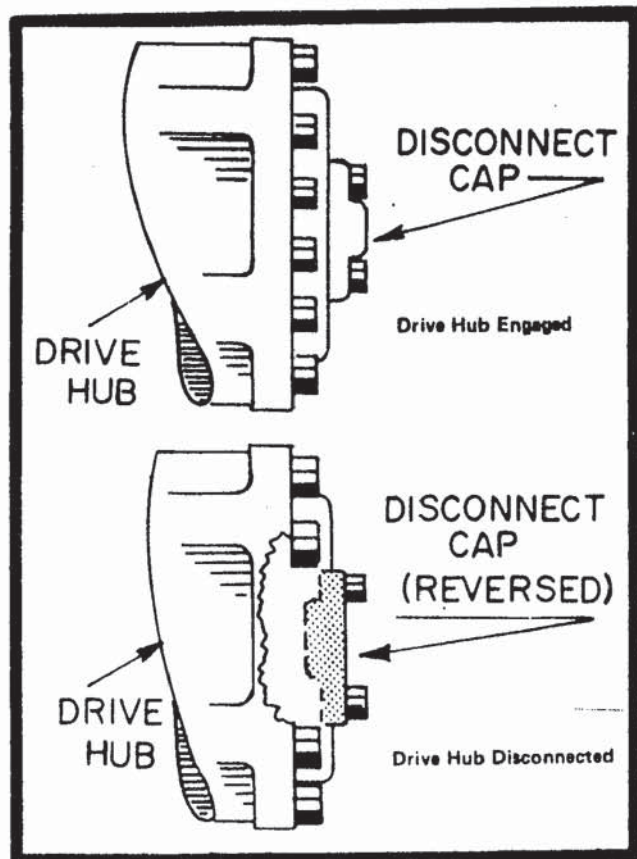

Figure 4-2. Drive Disconnect Hub.
- (1). Ensure that all axles, or outriggers (depending on how machine is equipped) are retracted and that lock pins (extendable axle machines) are in place.
- (2). Retract, lower, and position the boom over the rear in line with direction of travel; lock turntable.
- (3). Connect tow bar to steering hitch and to towing vehicle with attach pins.
- (4). Disconnect drive hubs by inverting disconnect cap. (See Figure 4-2.)
- (1). Actuate steer/tow selector valve for steering; push valve knob into the actuated position.
- (2). Reconnect drive hubs by inverting disconnect cap. (See Figure 4-2.)
- (3). Disconnect tow bar from steering hitch and from towing vehicle. The machine is now in the operation mode.